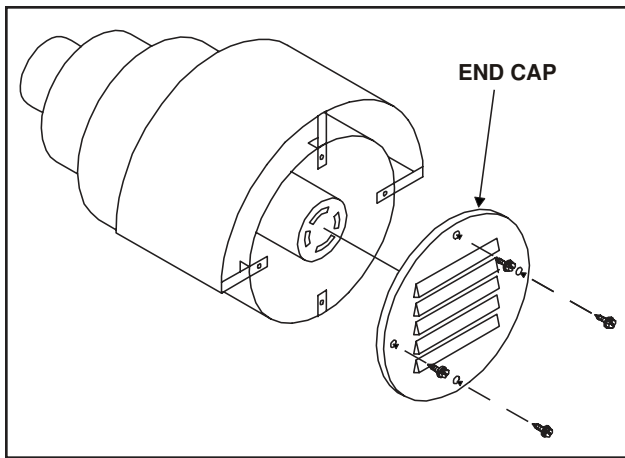
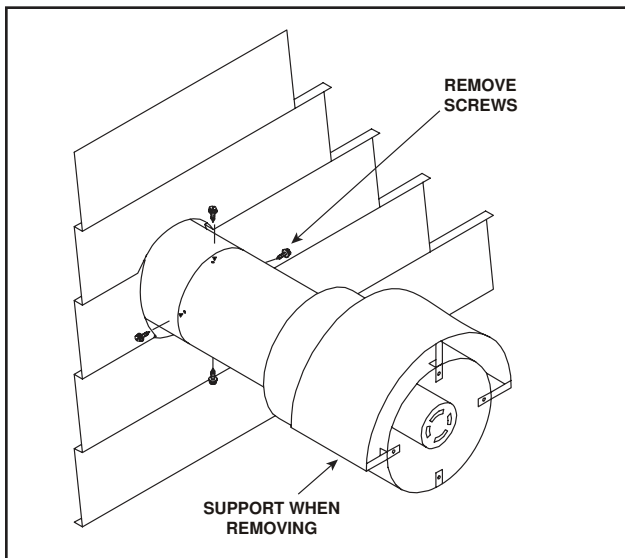

Figure 9.
Figure 10.
- A. Turn power to off. Remove end cap by removing the four (4) sheetmetal screws. See Figure 9.
- C. Loosen and remove the nut for the right angle connector and carefully pull back the cable to remove the four (4) wires from the power vent assembly.
- D. With the cable loosened from the power vent assembly, remove the sheetmetal screws used to secure the power vent assembly in place. Firmly support the assembly to prevent the unit from falling after the sheetmetal screws have been removed. See Figure 10.